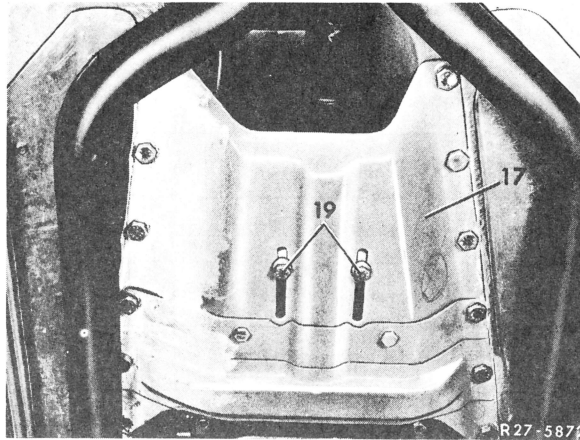

Fig. 5
9 Unscrew both fastening bolts (19) from engine mounting (Fig. 5).
10 Unscrew engine carrier or tunnel closing plate (17) on model 107 (Fig. 5).
44 Screw-on engine carrier or on model 107 tunnel closing plate (17) (Fig. 5).
45 Screw both fastening bolts (19) into rear engine mounting and tighten (Fig. 5).